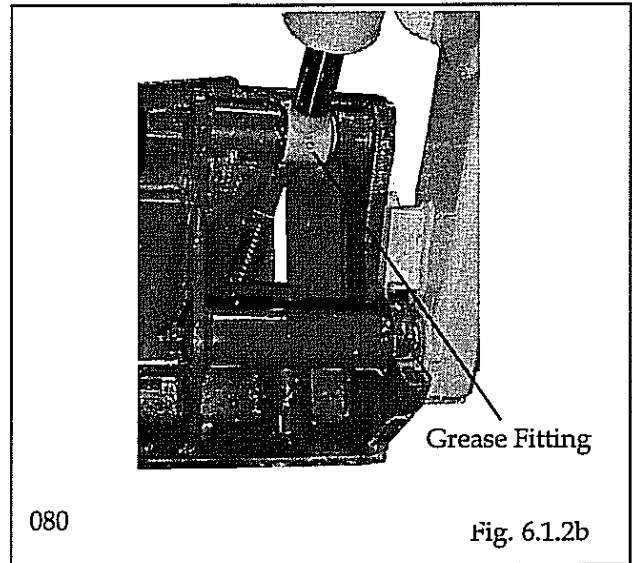

Fig. 6.1.2b
4. Lubricate the grease fitting on the quick - tach lock handle bushing (Fig. 6.1.2b).